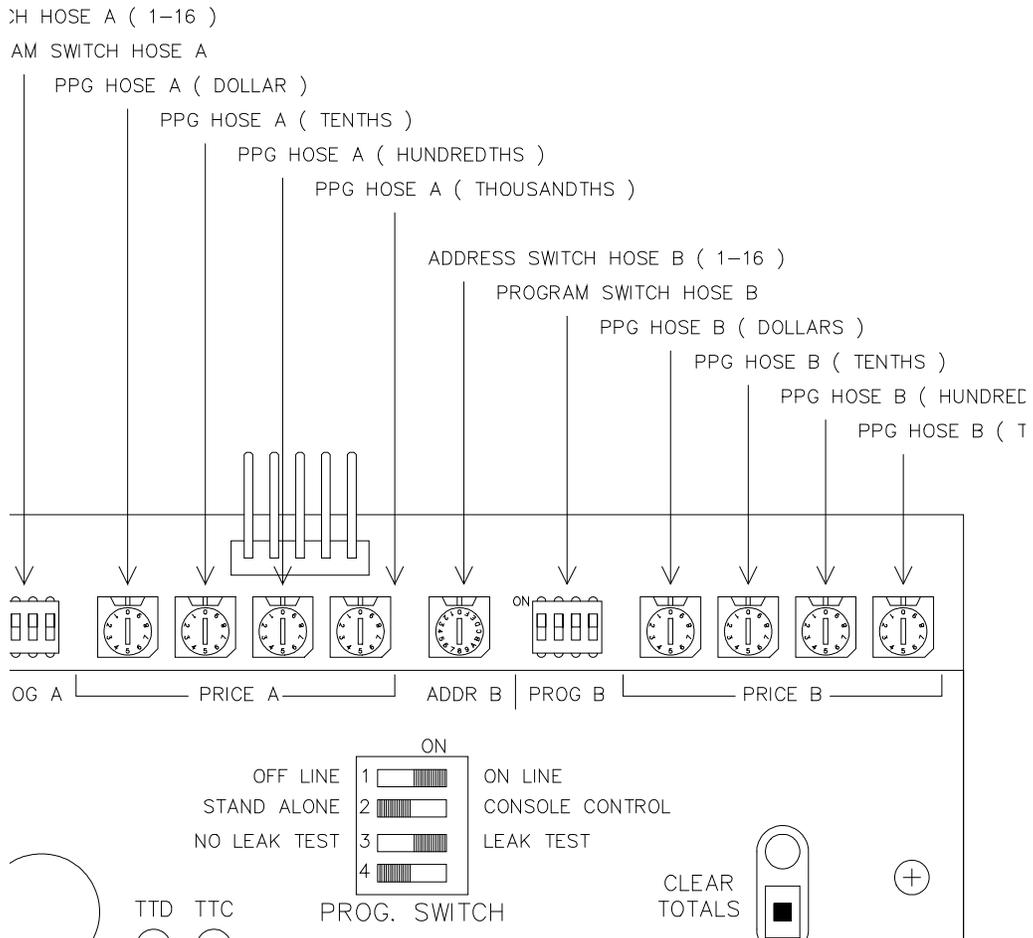
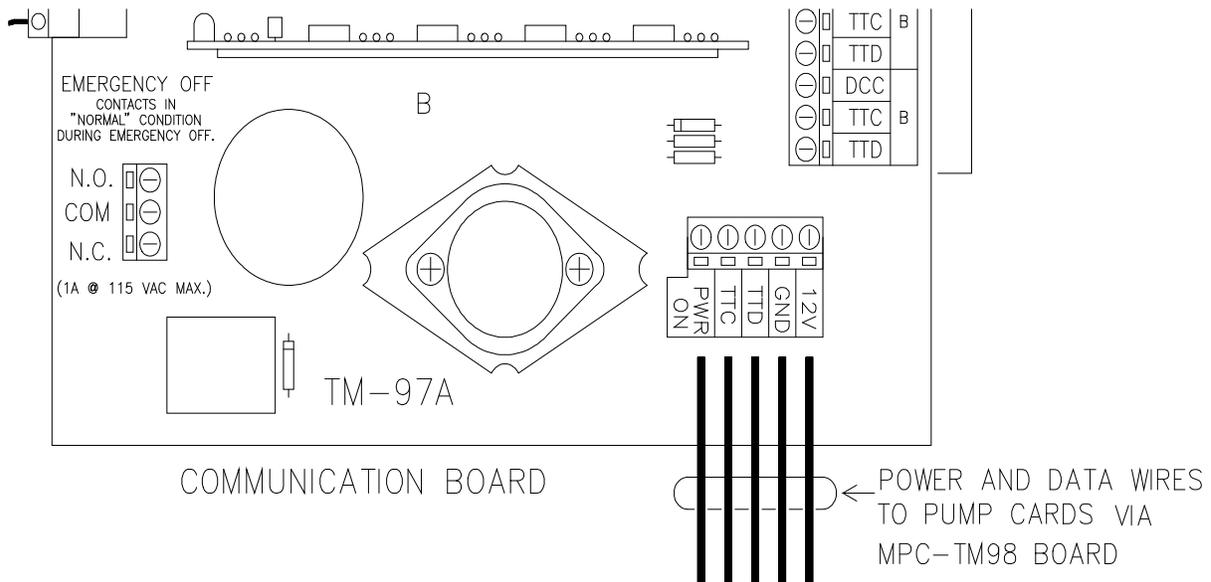

Figure 6 MPC-TM96 Pump Card Switch Description
Figure 7 Emergency Off Connector Located in Main TMS MPC-162 IC Box
3. **Pump Card Box:** Secondary pump card boxes do not require an AC connection. Only the MPC-TM96 pump cards inside the Pump Card Box require an AC connection. See figures 6 and 7, on pages 12 and 13, for wire diagrams of MPC-TM96 pump cards and 162 pumps/dispensers.
2. Connect the Tokheim 162 data signal and valve wires from each fueling position to the MPC-TM96 pump card(s) terminal strips in the TMS MPC-162 Interconnect Boxes. Refer to specific wire diagrams on page 11, figure 6 for dispensers and page 12, figure 7 for pumps.